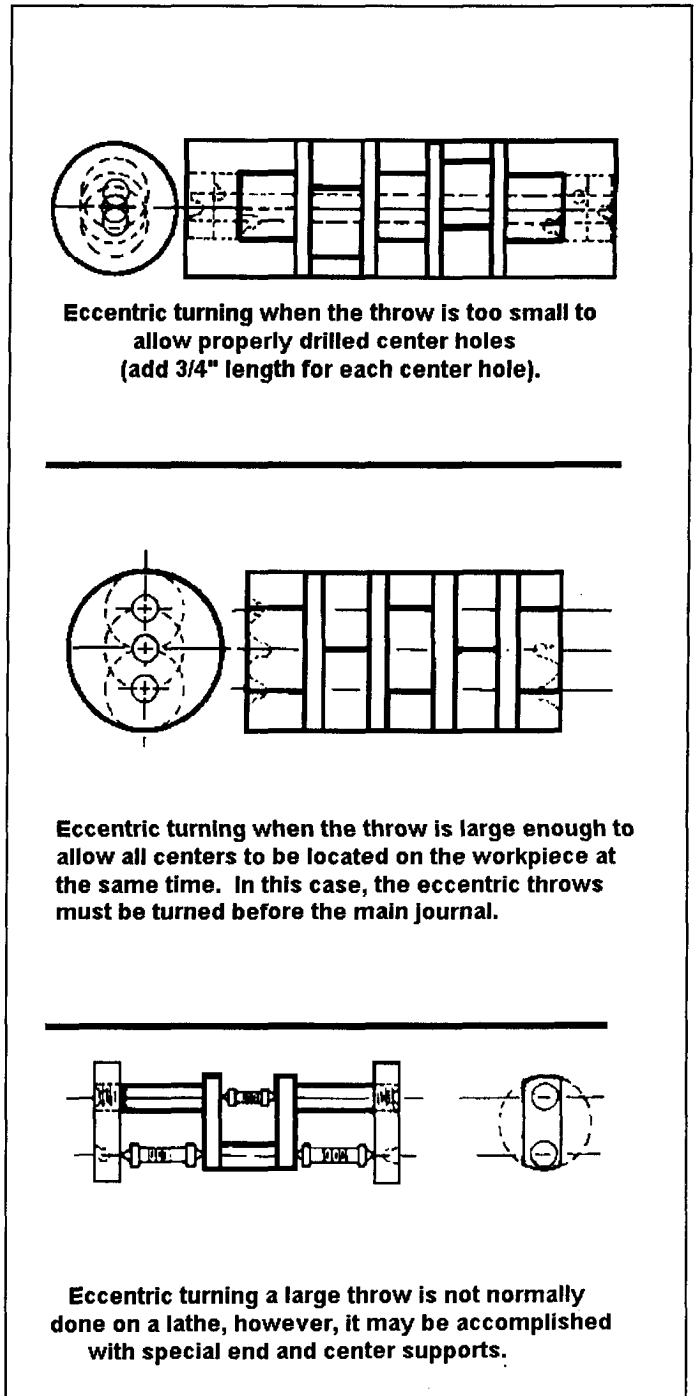

Figure 7-102. Eccentric turning.
- First determine the stock required by adding the throws plus 1/8 inch for machining (Figure 7-102).
the stock 3/4 inch oversized and just face both ends to clean up the saw cuts Lay out and center-drill the normal. center axis and turn down those diameters on the center axis with the work mounted between centers. Remove the work and remount into a chuck. Face both ends to the required length and center-drill the offset centers. Remount the work between these centers and machine the eccentric diameters to size. For eccentric work that has a limited distance between each center, this method is safer than trying to use a very shallow center-drilled hole to hold the work between centers (Figure 7-102).